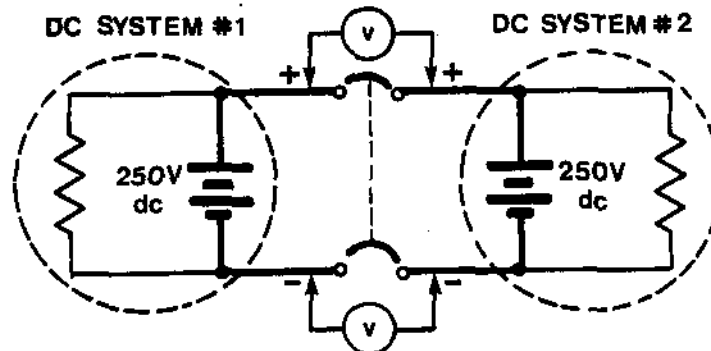

Figure 1: dc supplies ready for paralleling.
Figure 1 shows two 250 V dc systems (for example class 1) ready to be paralleled using a breaker. If voltmeters shown by (V) are simultaneously connected across the breaker contacts, they will read zero. (This assumes that both dc systems are at or near 250 V). After the breaker has been closed, and the systems have been paralleled, because both voltages are similar, little or no current will flow between the two systems.